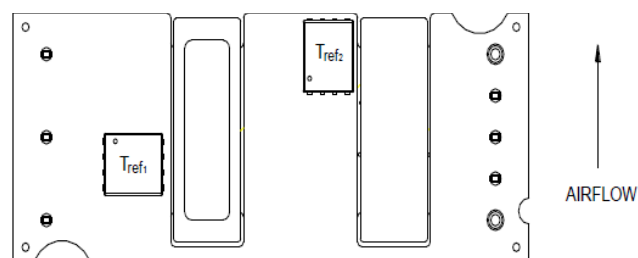
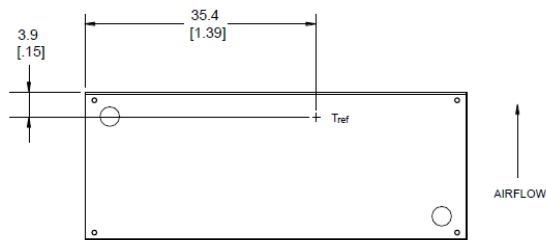

Figure 13. T_{ref} Temperature Measurement Locations for Open Frame Module.
Figure 14. Tref Temperature Measurement Location for Module with Heatplate.
To provide protection under certain fault conditions, the unit is equipped with a thermal shutdown circuit. The unit will shutdown if the thermal reference point, T_{ref} , exceeds 135°C (Figure 13, typical) or 120°C (Figure 14, typical), but the thermal shutdown is not intended as a guarantee that the unit will survive temperatures beyond its rating. The module will Overtemperature Protection automatically restart upon cool-down to a safe temperature.
The thermal reference point, T_{ref1} and T_{ref2} used in the specifications for open frame module is shown in Figure 13. For reliable operation this temperature should not exceed 122°C and 123°C
The thermal reference point, T_{ref} , used in the specifications for modules with heatplate is shown in Figure 14. For reliable operation this temperature should not exceed 100 °C.